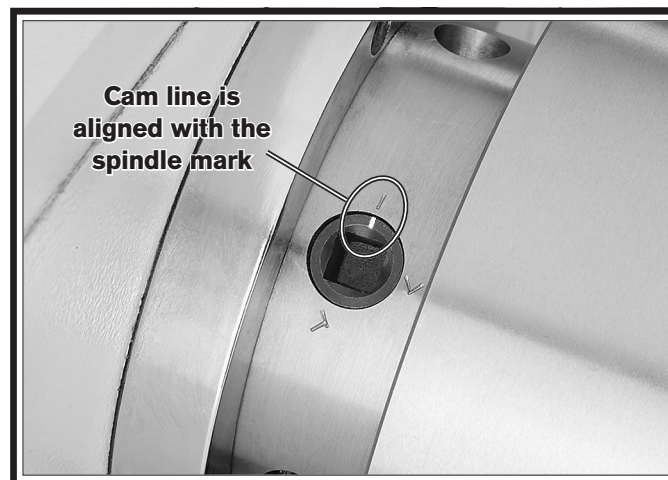

Figure 7. Camlock is fully loosened when the camlock line is aligned with the spindle mark.
3. Loosen the camlocks by turning the key counterclockwise approximately one-third of a turn until the mark on the camlock aligns with the spindle mark on the spindle nose (see **Figure 7**). If the stud does not freely release from the camlock, wiggle the camlock until it stud releases.